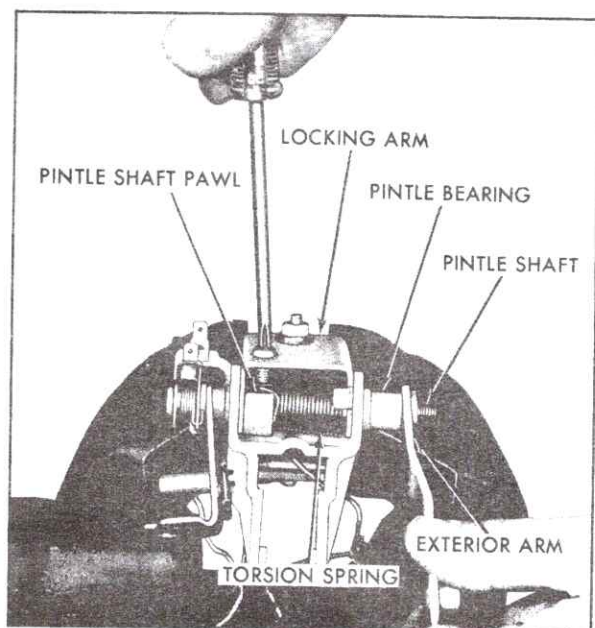

Fig. 15-24 Pawl to Screw Engagement
9. Mount magnet assembly in a vise. Position exterior arm on pintle shaft and take up torsion spring tension, Fig. 15-24. Hold in this position and loosen screw at locking arm until screw clears pintle shaft pawl. Slowly release and then remove exterior arm.
7. Mount magnet assembly in a vise. Position exterior arm on pintle shaft and rotate exterior arm clockwise until screw in locking arm can engage notch in pintle shaft pawl. Tighten screw, Fig. 15-24.